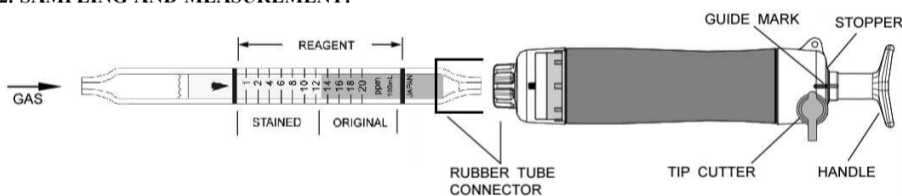

Fig.1
- ① Break both ends of the detector tube.
- ② Insert the detector tube into the aspirating pump securely as shown in Fig.1. (Arrow mark shall point to the pump.)
- ③ Align the guide marks on the handle and stopper of the aspirating pump.
- ④ Pull the pump handle at a full stroke until it locks and wait for 1 minute or until the completion of sampling is confirmed with the flow indicator of the pump. (See descriptions about the flow indicator in the instruction manual of the pump.)
- ⑤ On completion of sampling, read the scale at the maximum point of the stained layer.
- ⑥ When concentrations are below the scale range, multiple pump strokes can be used to determine these lower concentrations.